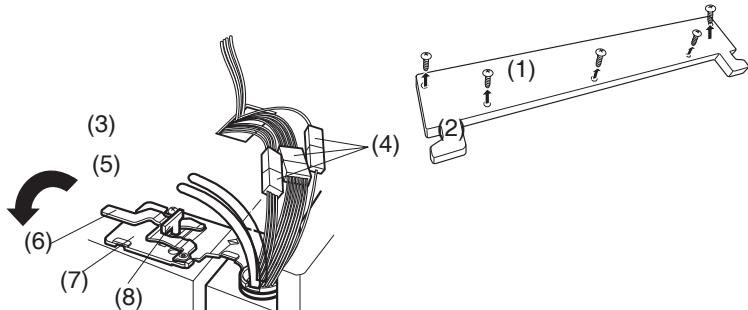

Figure 2
#### ► Left Door -FIG. 2
2. Separate the connector with the Defrost Control assembly and replace the Defrost Control assembly after cutting the Tie Wrap. (Figure 2)